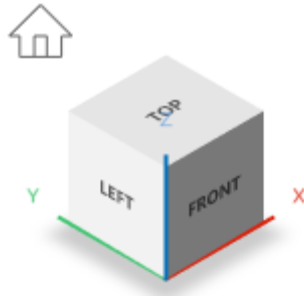

Figure 4.3 Directional cube
- 2) By clicking the six faces, eight vertices, and twelve edges of the coordinate cube, you can specify the viewing angle referring to the coordinate system to switch between different perspectives, as shown in Figure 4.3.